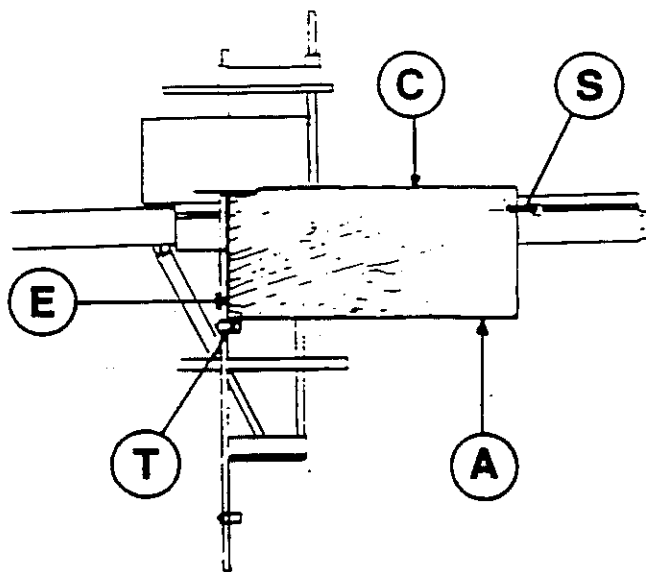

Fig. 37
- Turn panel 90° and rest side (F fig.37) you have now trimmed against the aluminium fence and side (A) against stop (T) positioned according to cutting measure, then carry out cut (C)